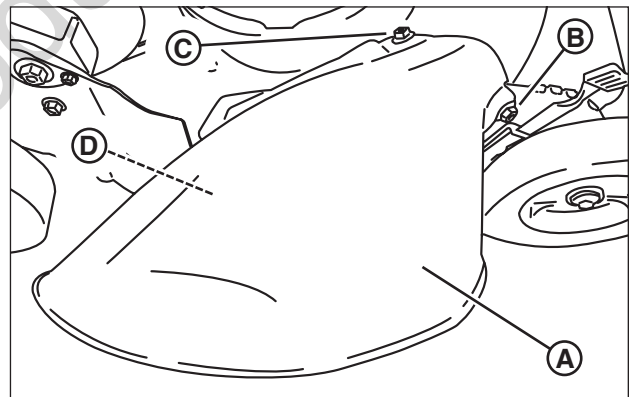

Figure 9: Installing the discharge deflector
2. Install the deflector (**A**, **Figure 9**) to the deck in place of the mulching cover, making sure that: